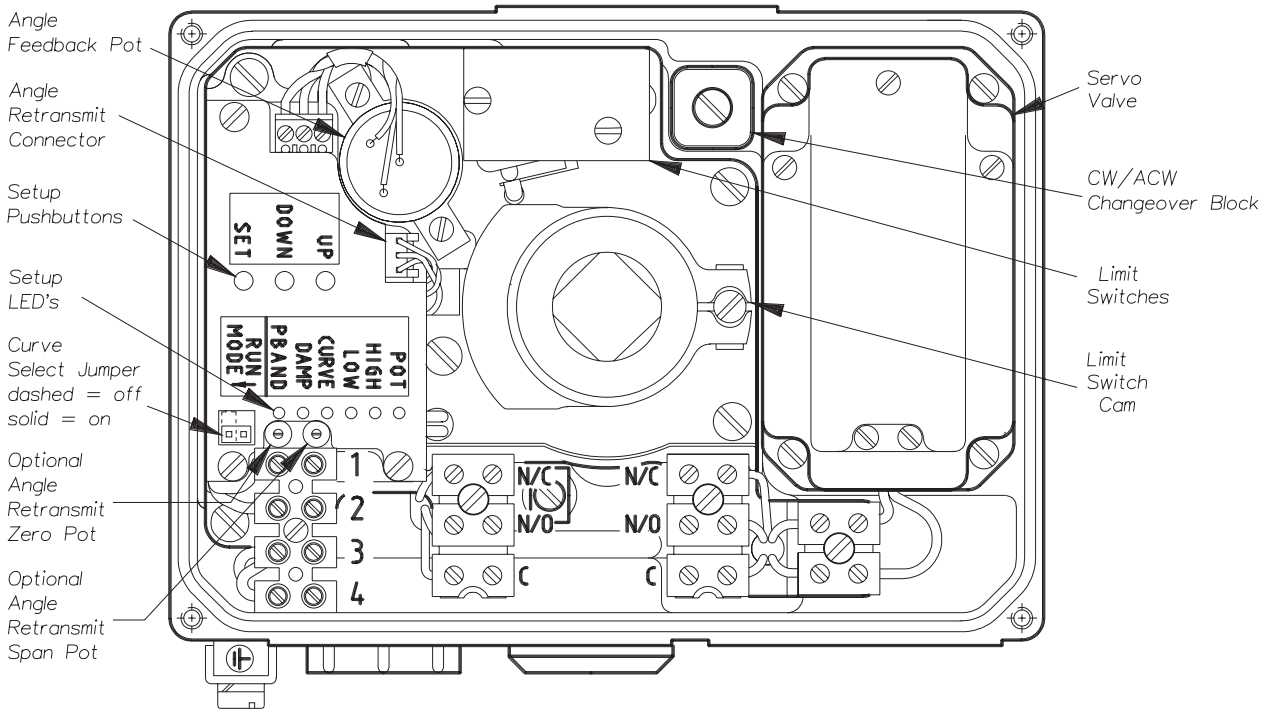

FIGURE 6. DIGITAL EL CONTROL ADJUSTMENTS. OPEN BOX, TOP VIEW.
The positioner may be operated either as a linear or non-linear device. Non-linear operation is enabled by fitting a jumper link to the positioner with the positioner ( and position retransmit if fitted ) powered down (ie. input current at 0 mA ). When the positioner is powered up with the link "on" ( see figure 6 for its position ), it will then operate as a non-linear device for as long as it remains powered up. Conversely, when the positioner is powered up with the link "off", it will operate as a linear device as long as it remains powered up. Changing the link from "on" to "off" or vice-versa while the circuit remains powered up will not cause a change from non-linear to linear operation - the position of the link is only effective during power up.
- (1) Disconnect air supply and signal.
- (2) Undo screw holding down changeover block ( see Figure 6 ).
- (3) Rotate changeover block 90 degrees, taking care to keep rubber gasket lined up with holes in body.
- (4) Re-tighten screw holding down changeover block.
- (5) Undo outer two angle pot wire terminal screws, swap blue and yellow wires over to reverse sense of pot connection, and re-tighten screws.
- (6) Re-connect air supply and signal, and carry out Resetting Feedback Pot procedure (see next section).
The angle retransmit circuit is mounted directly underneath the positioner circuit, and its ZERO and SPAN preset pots are accessible using a small instrument screwdriver through the two access holes in the positioner circuit ( see Figure 6 ). Connect the air supply, positioner signal and angle retransmit reader supply. To set the ZERO, move the positioner to its minimum signal position ( usually 4mA ), and set the ZERO preset pot to give the desired retransmit current. Then set the SPAN by moving the positioner to its maximum signal position ( usually 20 mA ), and adjusting the SPAN preset pot to give the desired retransmit current. Recheck and readjust these two settings until both are correct - as the SPAN is adjusted, it has a small effect on the ZERO reading, and vice-versa, so a few readjustments may be necessary.